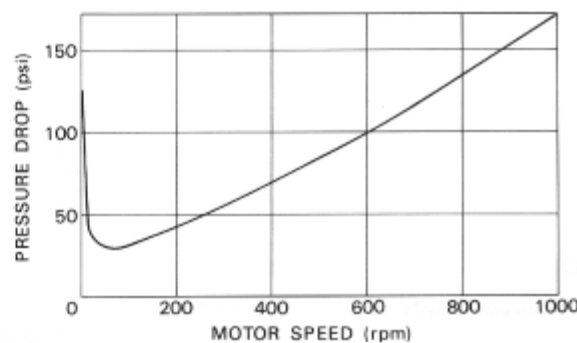

Fig. 8 Bearing Life and Motor Shaft Radial Load
2. In order to maintain the maximum bearing life, when a radial load is imposed on the output shaft the motor should be installed as illustrated in Fig. 8.